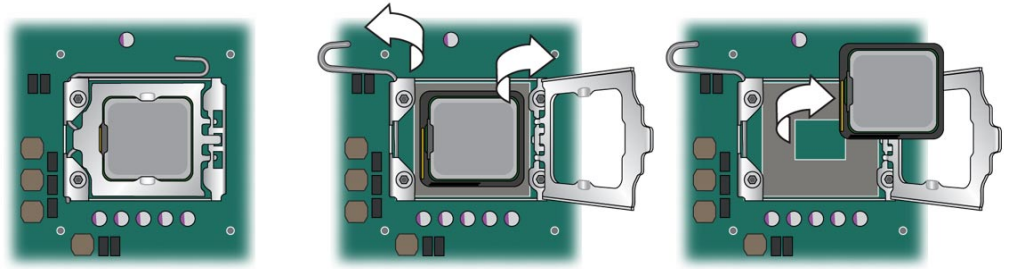

FIGURE 3-32 Removing the CPU From the Workstation
- 9 Depress the CPU socket retainer lever and slightly pull the lever outward (away from the CPU) to free the lever from its retaining clip (see Figure 3-32).